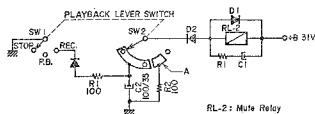

Fig. 16
2. At Reel or Transfer Mode (See Fig. 16)